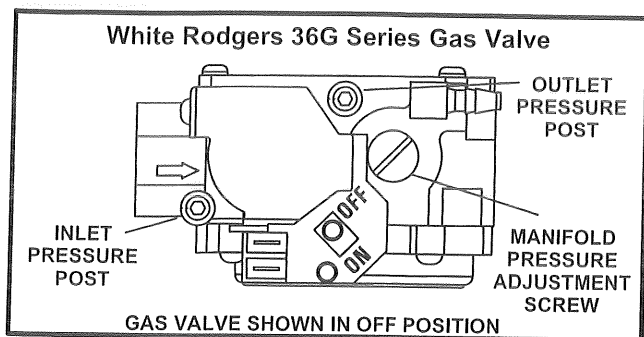
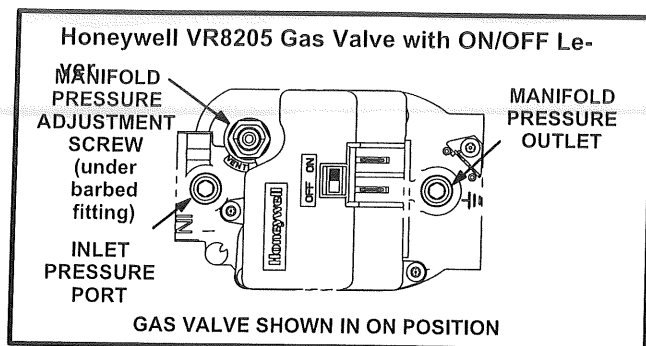
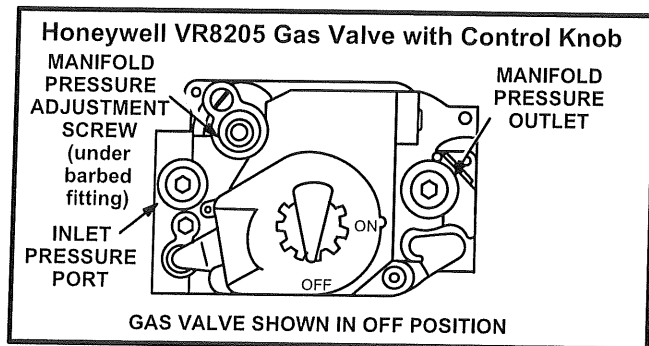

FIGURE 58
FIGURE 59
FIGURE 60
#### Gas Valve Operation (Figures 58 and 60)
- 6 - *White Rodgers 36G Gas Valve or Honeywell VR8205 Gas Valve with ON/OFF Lever* - Switch gas valve lever to **OFF**. See figure 58 for the White Rodgers 36G valve. See figure 59 for the *Honeywell VR8205* valve. *Honeywell VR8205 Gas Valve with Knob* - Turn knob on gas valve clockwise  to **OFF**. Do not force. See figure 60.
- 8 - *White Rodgers 36G Gas Valve or Honeywell VR8205 Gas Valve with ON/OFF Lever* - Switch gas valve lever to **ON**. See figure 58 for the White Rodgers 36G valve. See figure 59 for the *Honeywell VR8205* valve.
*Honeywell VR8205 Gas Valve with Knob* - Turn knob on gas valve counterclockwise ↶ to **ON**. Do not force. See figure 60.
- 2 - After the line pressure has been checked and adjusted, check the regulator pressure. A natural gas to LP/propane gas changeover kit is required to convert the unit. Manifold pressures are given in table 11. See figures 58, 59 and 60 for the location of the manifold pressure adjustment screws.
The White Rodgers 36G gas valve (figure 58) is equipped with pressure posts for measuring supply and manifold pressures. The posts provide built-in hose connections and have an integral 3/32" Allen-head screw. Rotate the screw counterclockwise one full turn to permit pressure measurement. Reseat the screw (rotate one full turn clockwise) after measurements have been taken to prevent gas leakage.